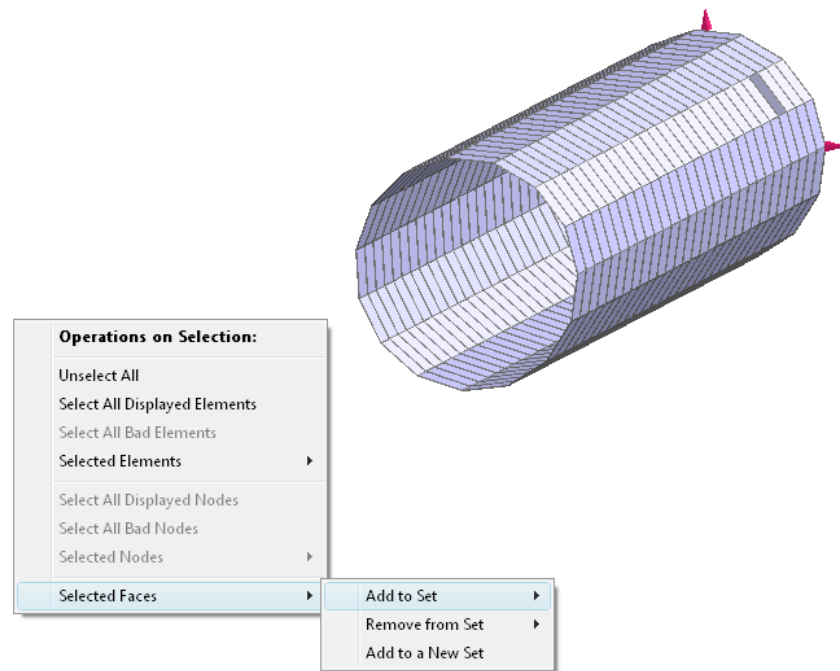

Figure 4.11 GUI operations on faces available through the context menu, activated by the right mouse button with the *shift-key* held down.
4.2.3.3. Operations on Displayed Faces Figure 4.11 shows the menu of operations available on faces. Operations on faces are activated only when faces are selected in the GUI.